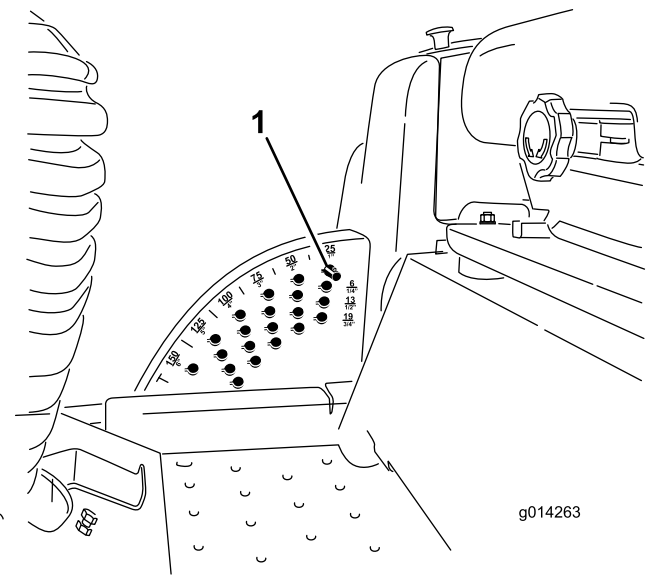

Figure 19
1. With the engine running, push back the deck-lift switch until the cutting unit is fully raised, and **release the switch immediately** as shown in Figure 19.
2. Rotate the height-of-cut pin until the nub on it lines up with the slots in the holes in the height-of-cut bracket and remove it (Figure 19).
3. Select a hole in the height-of-cut bracket corresponding to the desired height of cut, insert the pin, and rotate it down to lock it in place (Figure 19).
Note: There are 4 rows of hole positions (Figure 19). The top row gives you the height of cut listed above the pin. The second row down gives you the height listed plus 6 mm (1/4 inch). The third row down gives you the height listed plus 12 mm (1/2 inch). The bottom row gives you the height listed plus 18 mm (3/4 inch). For the 15.8 cm (6 inches) position, there is only 1 hole, located in the second row. This does not add 6 mm (1/4 inch) to the 15.8 cm (6 inches) position.